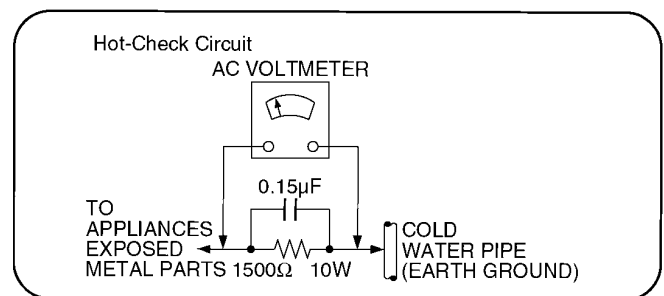

Figure 1
### 1.1.2. Leakage Current Hot Check (See Figure 1.)
2. Connect a 1.5kohm, 10 watts resistor, in parallel with a 0.15 $\mu$ F capacitors, between each exposed metallic part on the set and a good earth ground such as a water pipe, as shown in Figure 1.